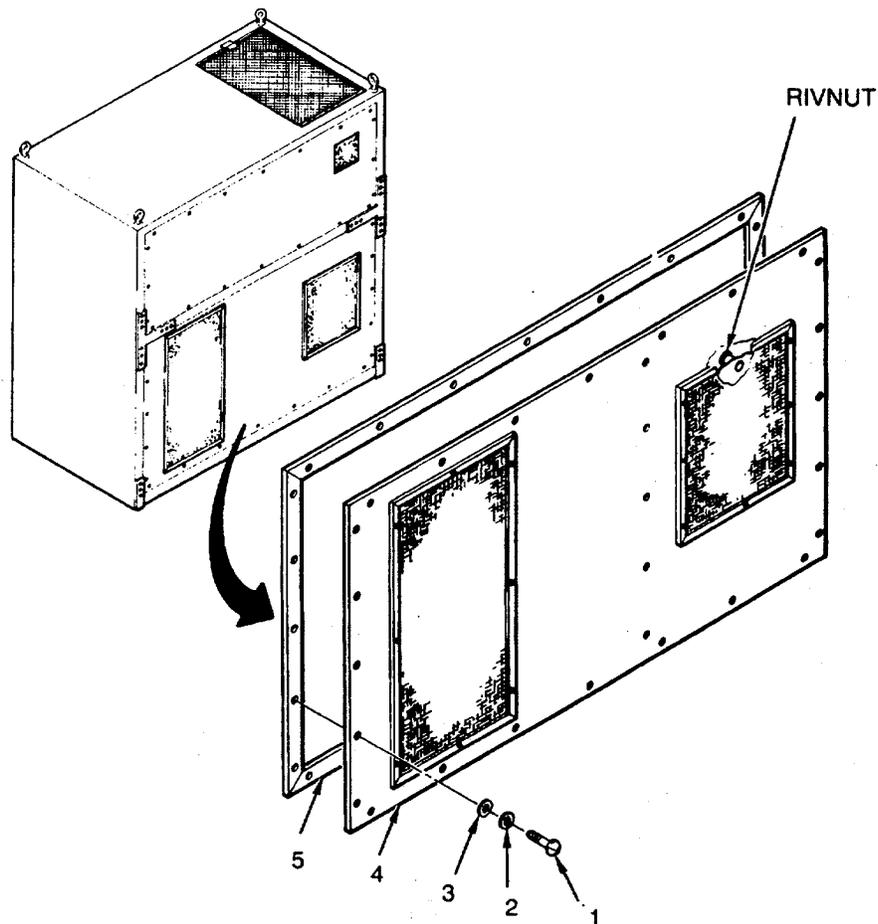

Figure 6-5. Rear Condenser Panel
1. Remove 42 screws (1), lockwashers (2), and flat washers (3) (see Figure 6-5).
2. Remove panel (4).